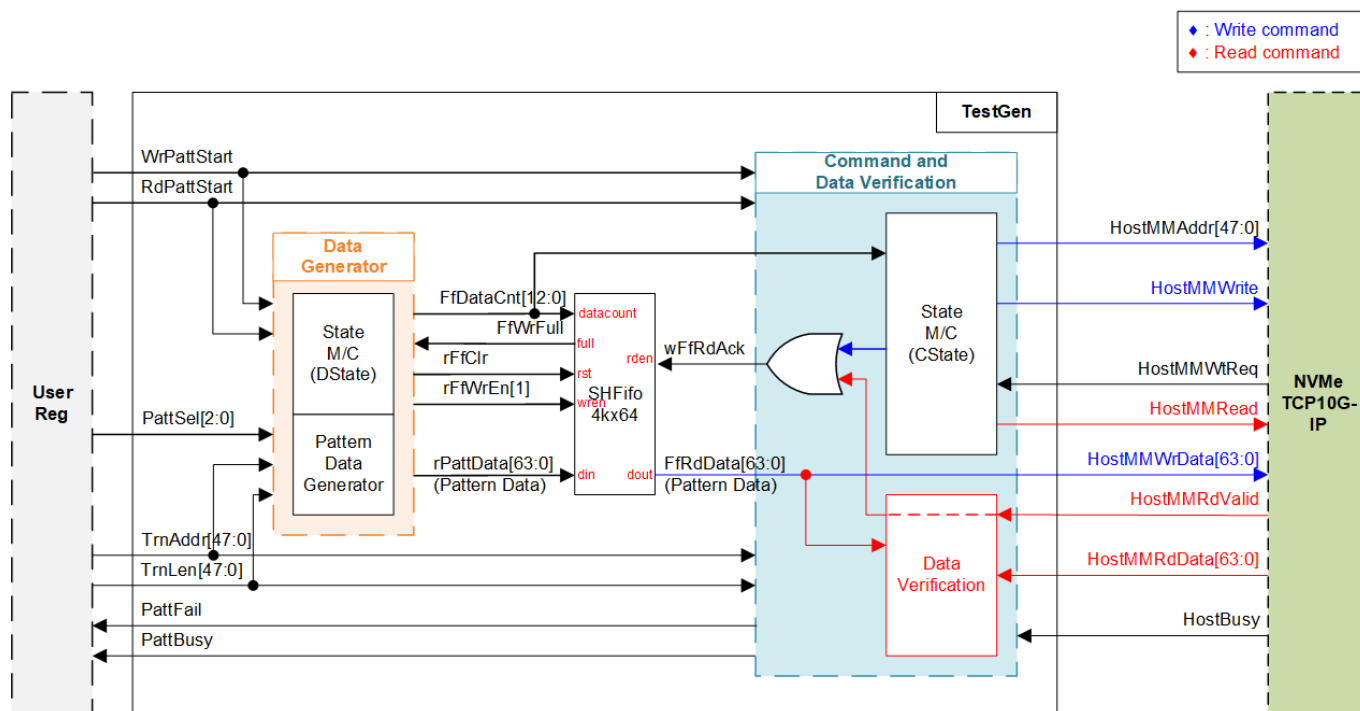

Figure 2-3 TestGen Interface
- (1) stCIdle: This state is designed to wait Write or Read Request (WrPattStart or RdPattStart) from user. When user starts the test along with test parameters, i.e., total transfer size (TrnLen: 512-byte unit), start transfer address (TrnAddr: 512-byte unit), and test pattern (PattSel), the logics load the first value from test parameters. Moreover, PattBusy is asserted to '1' to indicate that the test is running. If user starts the reading test by asserting Read Request (RdPattStart), state continues to stCRdTrn (2). On the other hand, if user starts the writing test by asserting Write Request (WrPattStart), state continues to stCWrWt (3).
- (2) stCRdTrn: In this state, Read Command (HostMMRead) is sent to NVMeTCP10G-IP in HostMM interface along with the start read address (HostMMAddr) of each 4-Kbyte transferring. After sending the last Read Command, state continues to stCWtEnd (6) to wait until all read data is returned and IP finishes the operation.
- (3) stCWrWt: This state is designed to wait until data is enough in FIFO via checking FIFO Data Counter (FfDataCnt). If the data in FIFO is more than or equal to 4 Kbytes (1 burst size), state continues to the next step.
- (4) stCWrTrn: This state is designed to read 4-Kbyte FIFO data and send them out as Write Data (HostMMWrData) to NVMeTCP10G-IP along with the Write Command (HostMMWrite). When write command and write data are received (HostMMWrite='1' and HostMMWtReq='0'), FIFO Read Enable (wFfRdAck) is asserted to read the next data from FIFO. The FIFO Read Data (FfRdData) is bypassed to be HostMMWrData (as shown Figure 2-3). At the first clock cycle of this state, the first 64-bit Write Data (HostMMWrData), the address (HostMMAddr), and Write Command (HostMMWrite) are sent to the IP. After the 511th of 64-bit Write Data (HostMMWrData) is sent to the IP, state continues to the next step.
- (5) stCWrChkFf: This state is designed to send the last 64-bit Write Data (HostMMWrData) of the current 4-Kbyte transferring. Moreover, state machine checks data amount in FIFO via checking FIFO Data Counter (FfDataCnt) for next 4-Kbyte bursting decision. After the last 64-bit Write Data (HostMMWrData) of the current 4-Kbyte transferring is sent, state exit choices are considered as follows.
- a. If the current 4-Kbyte Write Data is not the last 4 Kbytes of the Write Command and data amount in FIFO is not enough for the next round, state continues to stCWrWt (3) to wait until Data Generator fills more data to the FIFO. This state transition triggers the logics to de-assert Write Command (HostMMWrite) to '0'.
- b. If the current 4-Kbyte Write Data is not the last 4 Kbytes of the Write Command and data amount in FIFO is enough for the next round, state continues to stCWrTrn (4). This state transition allows the logic to start sending the next 4 Kbytes data continuously after finishing transferring current 4-Kbyte data without de-asserting Write Command (HostMMWrite) to '0'.
- c. If the current 4-Kbyte Write Data is the last 4 Kbytes of the Write Command (indicated via rMMLenCnt), state continues to stCWtEnd (6). Also, Write Command (HostMMWrite) is de-asserted to '0' to end the writing test.